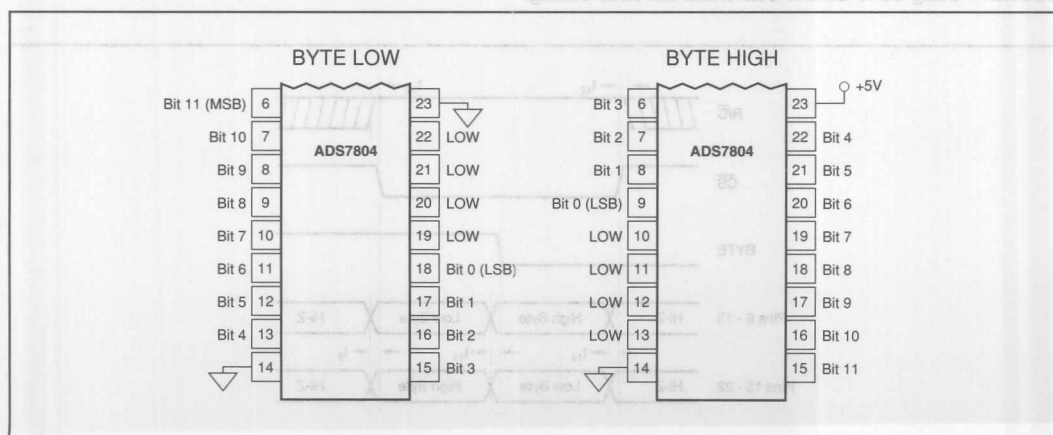

FIGURE 2. Bit Locations Relative to State of BYTE (pin 23).
Figures 2 through 3 for timing diagrams.
NOTE: (1) See Figures 2 and 3 for constraints on data valid from conversion "n-1".
The ADS7804 outputs full or byte-reading parallel data in Binary Two's Complement data output format. The parallel output will be active when $\overline{R/\overline{C}}$ (pin 24) is HIGH and \overline{CS} (pin 25) is LOW. Any other combination of \overline{CS} and $\overline{R/\overline{C}}$ will tri-state the parallel output. Valid conversion data can be read in a full parallel, 12-bit word or two 8-bit bytes on pins 6-13 and pins 15-22. BYTE (pin 23) can be toggled to read both bytes within one conversion cycle. Refer to Table III for ideal output codes and Figure 2 for bit locations relative to the state of BYTE.